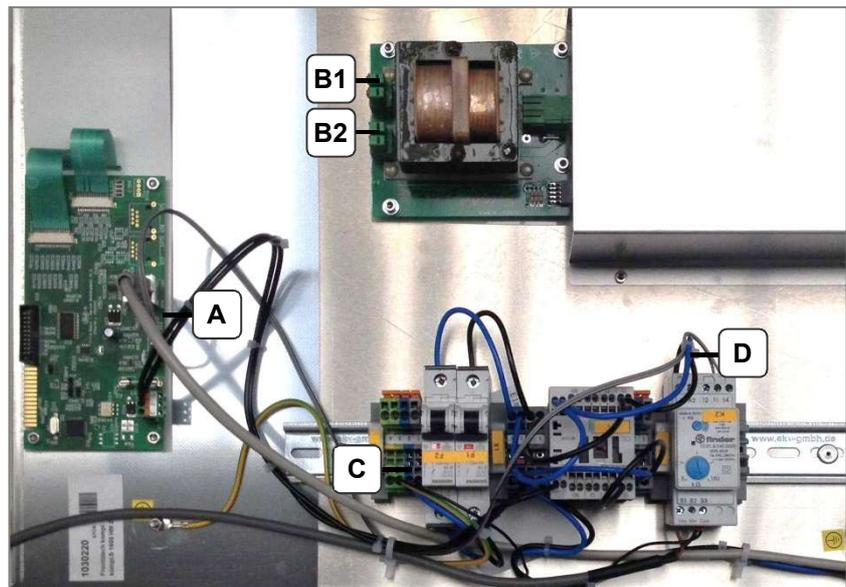

Fig. 9.5.2. Position of the connectors
3. Disconnect the connectors from the defective electronic unit (Fig. 9.5.2.):